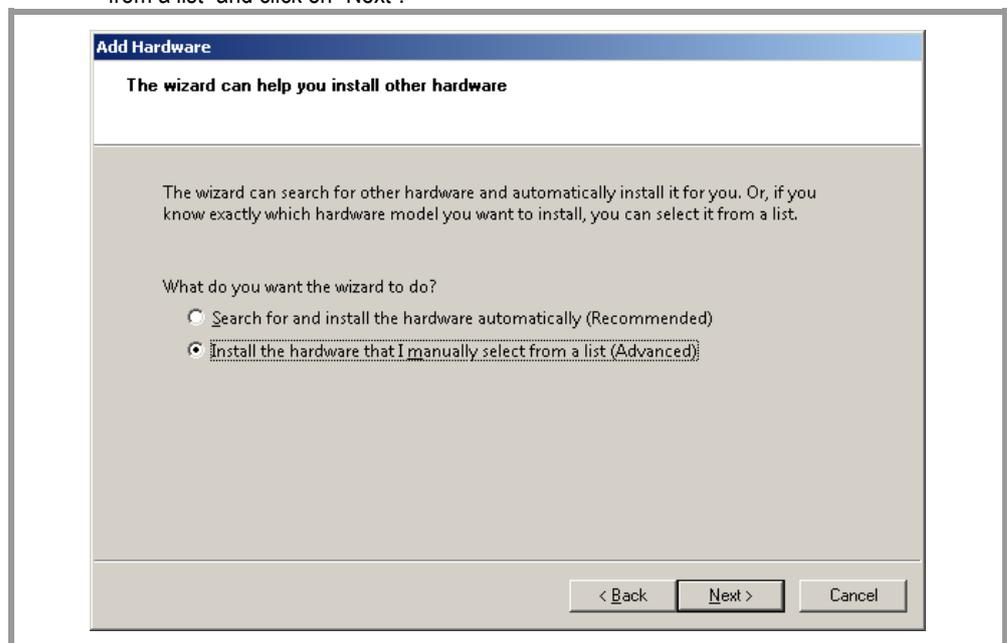

Fig. 1 Add a new hardware
2. The dialog as shown in Fig. 1 appears. Check “Install the hardware that I manually select from a list” and click on “Next”.